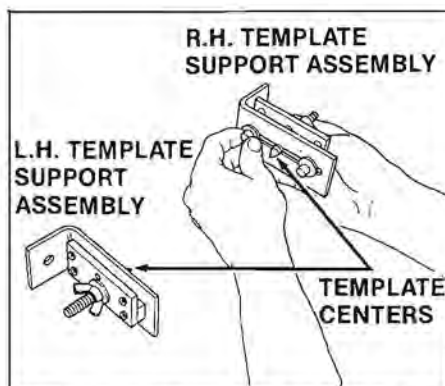

Figure 8. Attach each template support assembly to a bracket, making a left-hand and a right-hand template support assembly.
1. Assemble the two template support assemblies. The two template support assemblies (1 thru 8) are preassembled. Remove the two screws (8) and washers (7) from each assembly. Use the removed screws and washers to attach each template support assembly to a bracket (9), making a left-hand and a right-hand template support assembly. When installed on the channel, the template centers must point toward each other. (See Figure 8.) Tighten the screws (8) finger tight. They will be tightened securely during alignment and adjustment.